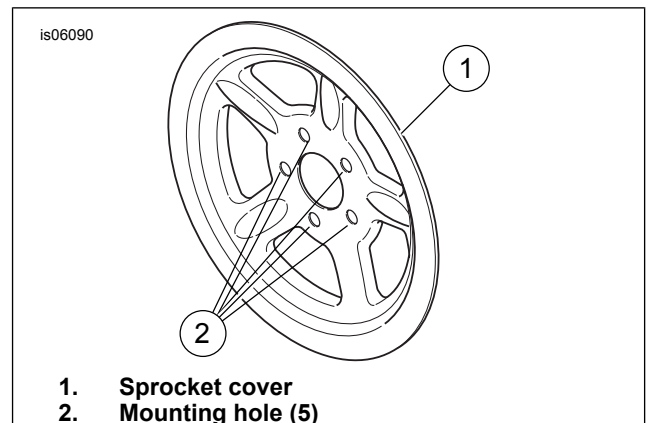

Figure 1. Chrome Sprocket Cover
3. See Figure 1. Remove the five sprocket mounting screws.